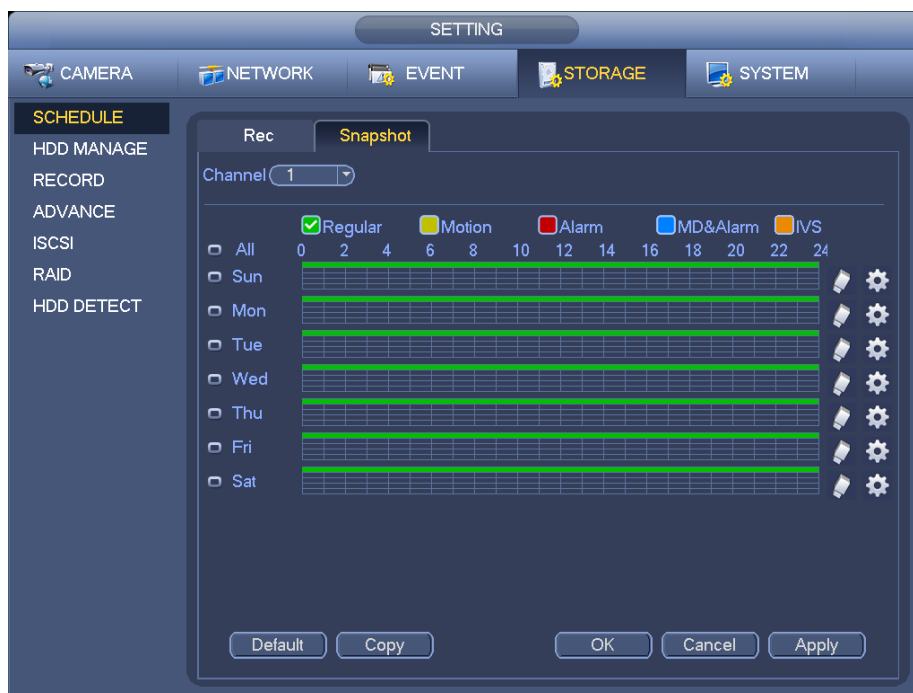

Figure 3-73
- From Main menu->Setting->Camera->Encode->Snapshot, you can go to snapshot interface. See Figure 3-73.
- In Figure 3-73, select trigger snapshot from the dropdown list and then set picture size, quality and snapshot frequency. Click OK button to save current setup.